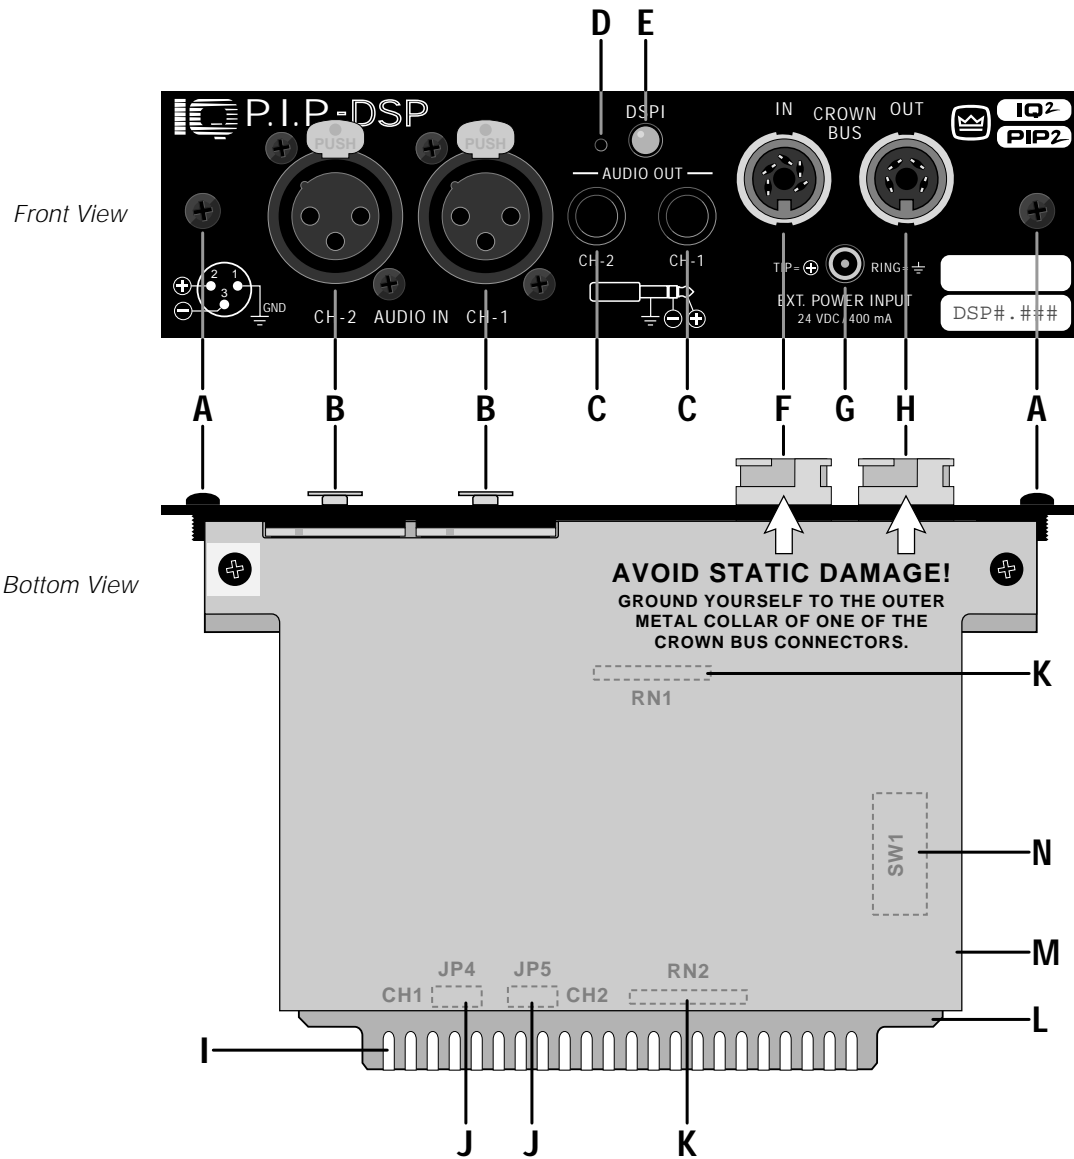

Fig. 2.1 The IQ-P.I.P.-DSP Facilities
2. Set jumpers JP4 and JP5. Set both jumper JP4 and JP5 to the "OUT" position if either a *PIP2*-compatible or *Macro-Tech 5000VZ* amplifier will be used (Figures 2.1 and 4.7). Both JP4 and JP5 should be set to the "IN" position for all other amplifiers.
CAUTION: STATIC ELECTRICITY MAY DAMAGE THE IQ-P.I.P.-DSP MODULE. Use caution when handling the unit. Carefully ground yourself BEFORE touching the *IQ-P.I.P.-DSP* module. For added safety, touch the outer metal collar of either Crown Bus connector (see Figure 2.1). This should safely discharge any static electricity through the ground plane of the module. Avoid unnecessarily touching the components, edge connector or solder pads on the circuit boards.
2. **Set the jumpers JP4 and JP5.** If the IQ-P.I.P.-DSP is being installed into a PIP2-compatible or Macro-Tech 5000VZ amplifier, move both jumper JP4 and JP5 on the IQ circuit board to the "OUT" position (Figures 2.1 and 3.6). Set both JP4 and JP5 to the "IN" position for all other amplifiers.